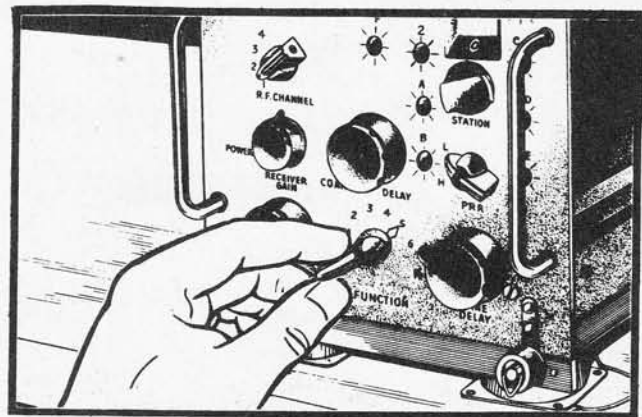

Figure 4-10
b. STATION FEED-BACK RATES.—Figures 4-10 to 4-11 are receiver-indicator indications for correct timing, station feed-back rates.